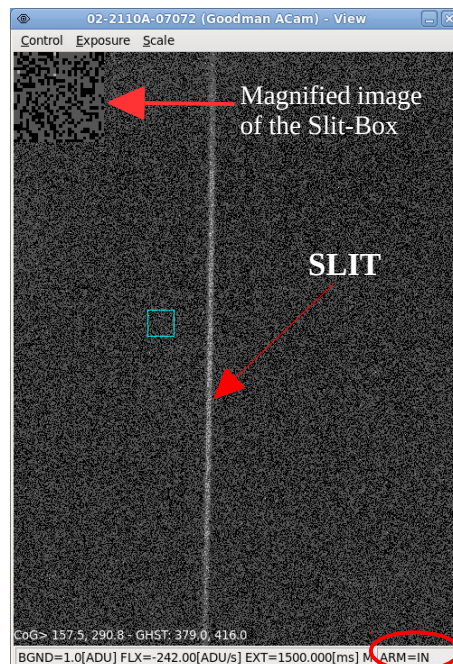

Figure 4: ACAM image of the slit on a bright Moon night.
- Then click on the “eye” icon to open the **View** window (Fig.3, left). Three menus on top of the View window provide: 1) control of the camera arm and bring up the offsets window (**Control**), 2) Camera Exposure window (**Exposure**), and 3) display scaling parameters window (**Scale**). The arm status is shown in the lower right corner (Fig. 3, right). A magnified image of the region inside the cyan Slit-Box is shown in the upper left corner of the View window (Fig. 4).
- Once you click on the **Move IN** option of the Control menu, the camera arm will move into the spectrograph beam and you will see the slit as shown in Figure 4. This movement is fast (~4s).